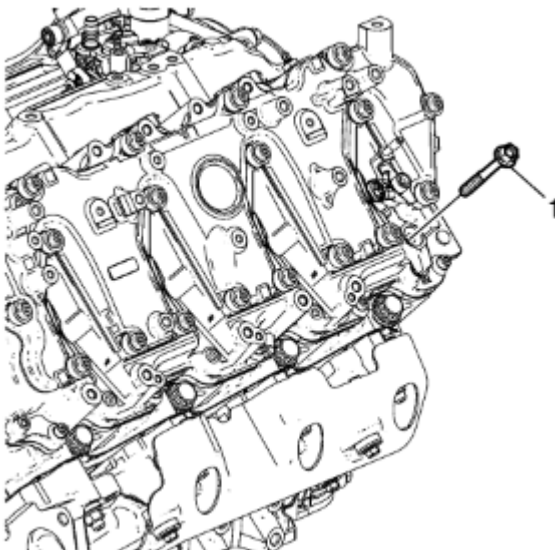

Fig. 52: Fuel injector bolt removal
- a) Remove the fuel injector bracket bolts. Reference item 1 in figure 52.